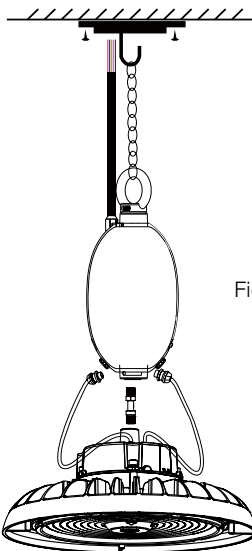

Figure 14
- 1). Install the EM according to EM spec sheet. (figure 14)